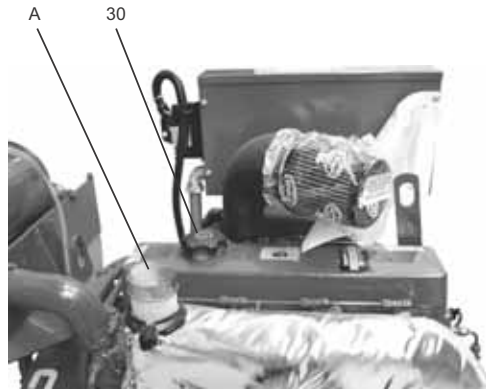

Fig. 46 Oil filler cap
Remove the oil filler cap (fig. 46, pos. 30) and fill oil up to the corresponding mark on the oil dipstick.